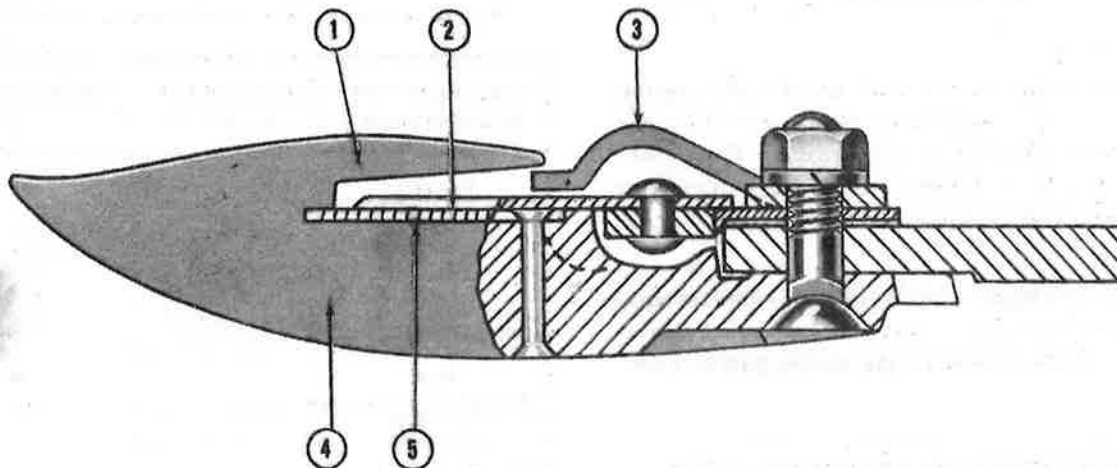

Figure 8
Knife Guards: Align the guards (4), Figure 8, by striking the forward end up or down with a hammer until the ledger plates (5) align with each other and with the plates on inner and outer shoe. The knife guard lip (1) should be above the knife clip (3) and kept straight as shown in Figure 8.
Knife Clips: The knife clips (3), Figure 8, should hold the knife sections down on the ledger plates (5) without binding the knife section. Adjust by removing the knife and striking the forward end of the clip up or down.